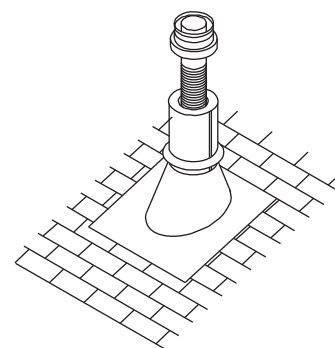

Fig 3
4. Pass the flex pipe down through the center of the chimney system, and center the Outlet Connector on the top of the chimney pipe. Drill four 1/8-inch diameter holes through the adapter, and into the chimney top. Insure that you are in fact, drilling into the metal on the chimney. Install the Termination Cap onto the Outlet Connector. Refer to Figures 3 and 4.